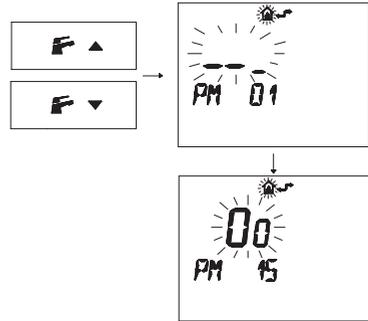

Fig. 7.13
- Press buttons **F** ∇ or **F** \blacktriangle to display the "PM15" program that enables the external probe (Fig. 7.13).